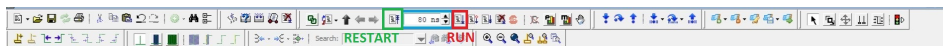

Fig. 3.12: Selecting Run Length (80ns).
11. The *Wave* window will appear. Select the run length (80 ns) as shown in Fig. 3.12.
13. If you want to restart your simulation, then click on *Restart* icon (Fig. 3.12).